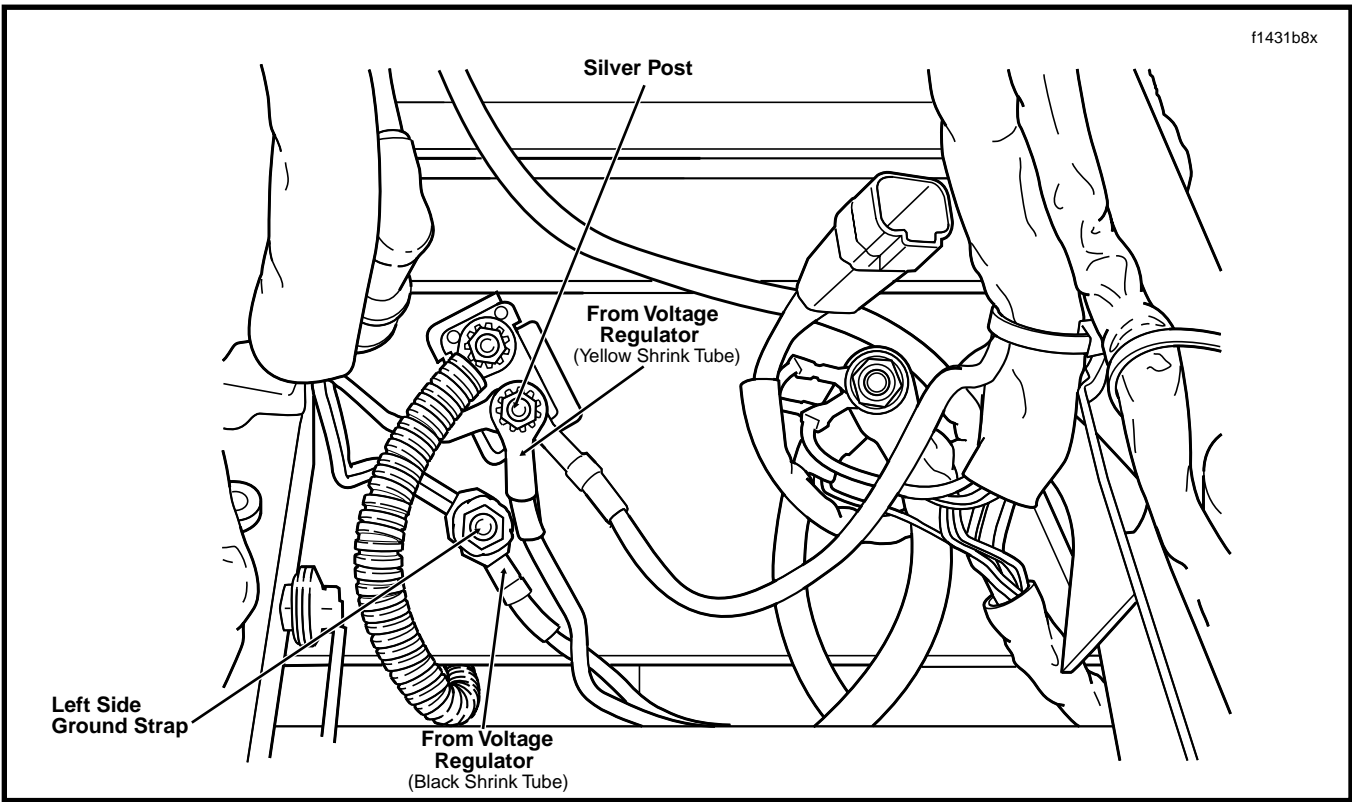

Figure 3. Electrical Connections - Upper Frame Cross Member (Under Seat)
5. See Figure 3. Check both nuts that secure wires from voltage regulator to 40 amp main circuit breaker and left side ground post for proper tightness. Tighten to 20-30 **in-lbs** (2.3-3.4 Nm) as required.